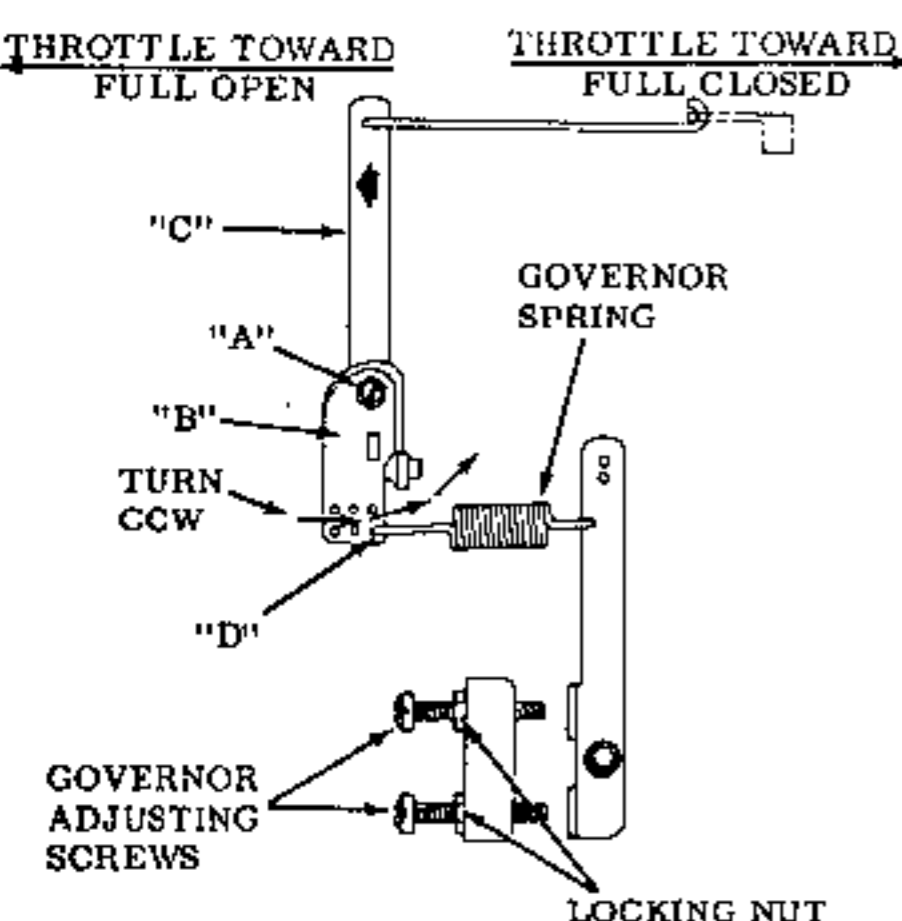

Fig. T60—Typical external governor linkage. Refer to text for adjustment procedures.
To adjust external governor linkage, refer to Fig. T60 and proceed as follows: Loosen screw (A), turn plate (B) counter-clockwise as far as possible and move governor lever (C) to the left until throttle is in wide open position. Tighten screw (A). Governor spring must be hooked in hole (D) as shown. Adjusting screws on bracket are used to adjust fixed or variable speed settings. Engine high idle speed should not exceed 3600 rpm.